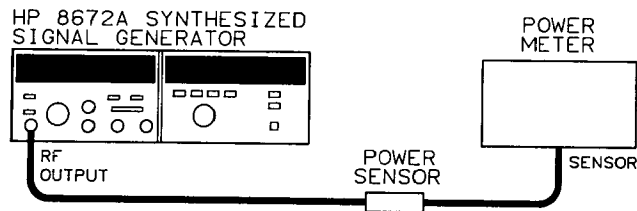

Figure 4-5. Output Level, High Level Accuracy and Flatness Test Setup
2. Connect the power sensor to the RF OUTPUT connector of the Signal Generator as shown in Figure 4-5.